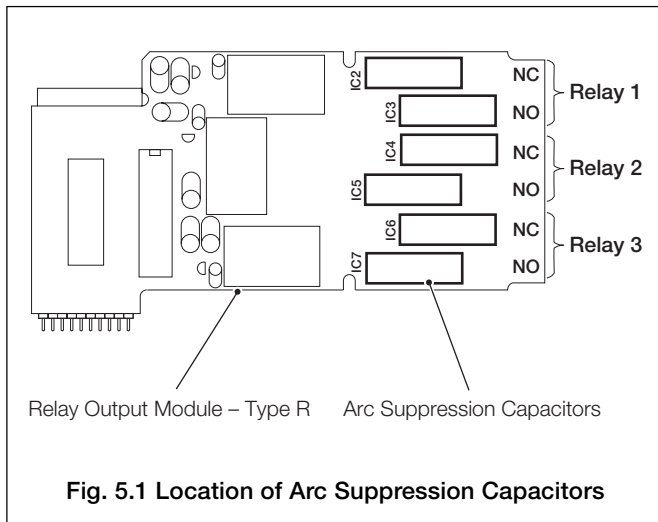

Fig. 5.1 Location of Arc Suppression Capacitors
5.1 Arc Suppression Capacitors – Fig. 5.1
Arc suppression capacitors are fitted across the contacts of the alarm/control relays. If these contacts are used to operate external relays, the capacitor leakage current may be sufficient to prevent the external relay from de-energizing. If so, switch off the power supply and external alarm circuits. Identify the appropriate relay module and remove it – see Fig. 5.1
Unsolder and remove the appropriate capacitors, shown in Fig. 5.1 and refit the module.